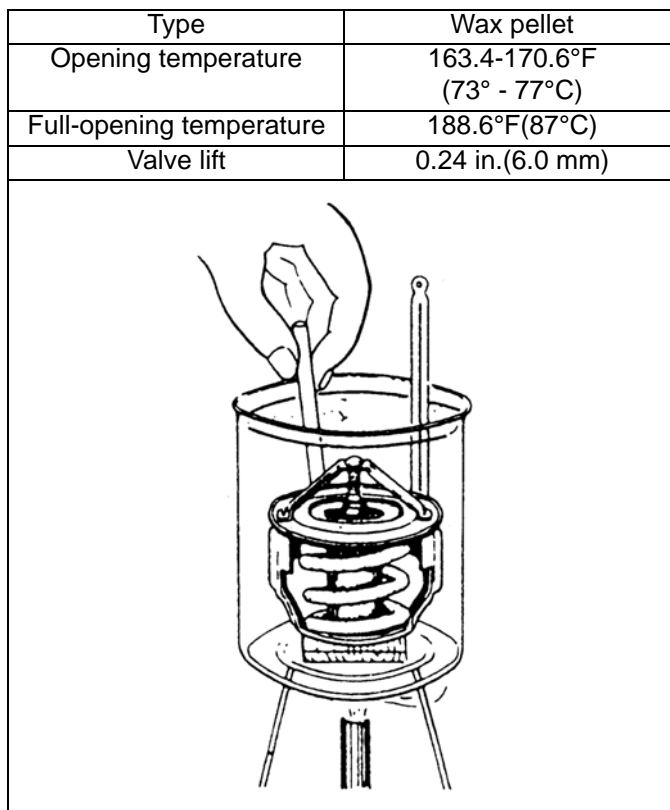

Fig. 3-38
2. Immerse the thermostat in water, increase the water temperature gradually and check the valve opening temperature and valve lift. (See Fig. 3-38)